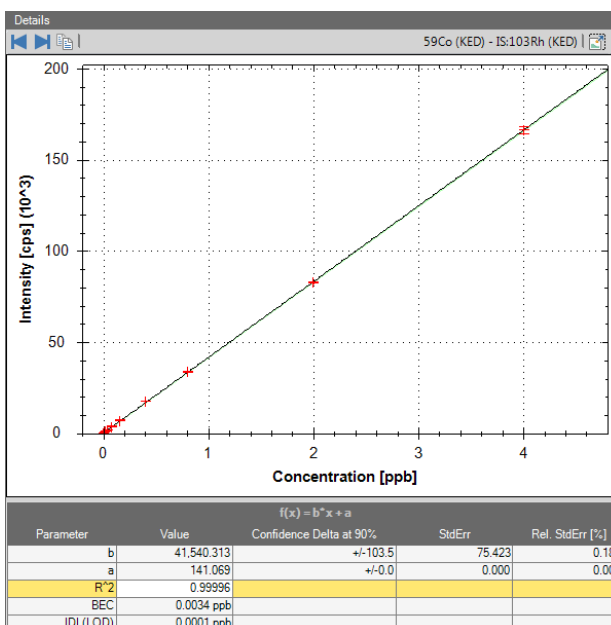

Figure 4. A 10-point calibration generated from a single stock solution using prescriptive dilution.
- In the simplest approach a single stock standard can be used to create a complete multi-point calibration line (Figure 4).
Figure 4 illustrates the basic approach of generating a 10-point calibration curve. A correlation coefficient of 0.99996 illustrates the dilution accuracy of prepFAST Auto-dilution System at low ng·mL⁻¹ concentrations.